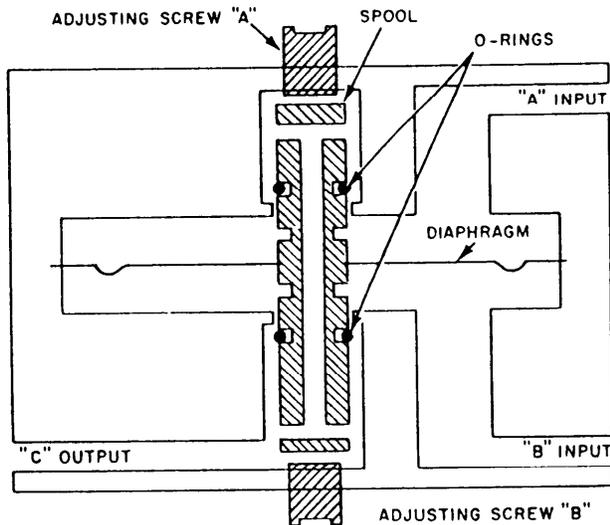

Figure 17-17.—Low signal selector.
**LOW SIGNAL SELECTOR.**—A minimum signal selector (fig. 17-17) is used when the lower of two signal is to be selected. In this application, the neoprene O-rings are placed in the outer grooves on the spool. As the pressure of either A input or B input rises (one toward the lesser pressure port), the O-ring on the side of the greater pressure will be forced against the outer seat of the circular port made by the